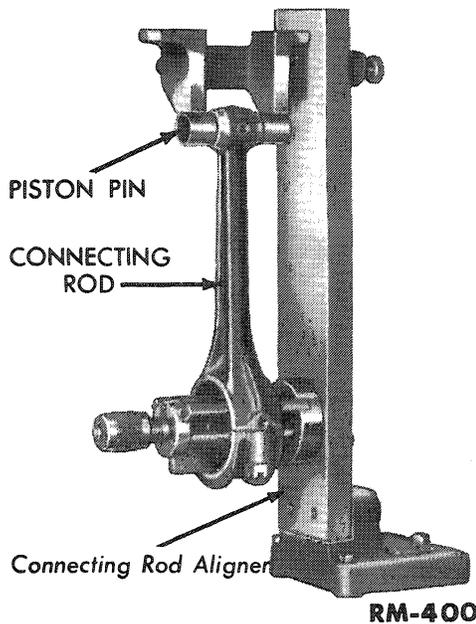

Fig. 20—Checking Connecting Rod for Bend
(3) **CONNECTING RODS.** Replace connecting rods which have damaged studs. To check the piston pin bushing for wear, use a new piston pin as a gauge. If any looseness is felt, rebush the connecting rod (par. c below), or fit an oversize piston pin in both the connecting rod and the piston (par. b below). Check the connecting rods for being twisted. Bent or twisted connecting rods must be aligned (figs. 20 and 21). Where possible, use the original connecting rod for each cylinder. If any of the old rods are used in a different cylinder, file off the old number. Number each rod and cap as follows: Use $\frac{3}{32}$ -inch steel stamps for numbering the connecting rods and caps, placing the new number in the same position as the old one.
c. **Connecting Rod Bushing Replacement.** Drive the bushing from the connecting rod with a suitable driver. Press a new bushing into the connecting rod. Drill the four oil holes in the bushing to the same size as the holes in the connecting rod. Ream and burnish or hone the bushing to 0.7505 inch. Check the alignment of the connecting rod, correcting any misalignment (figs. 20 and 21).